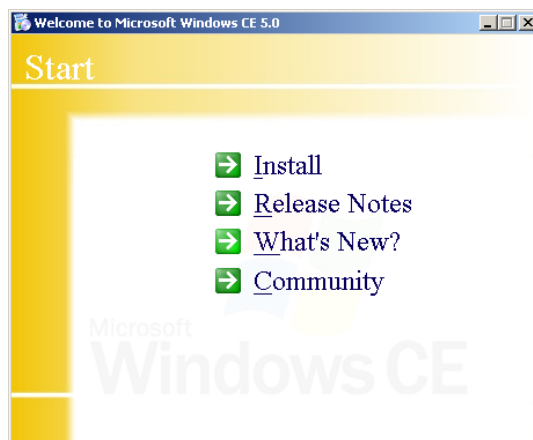

Figure 1-1 Start Menu
2. From the Start menu of the installation disk, select the Install option (Figure 1-1).